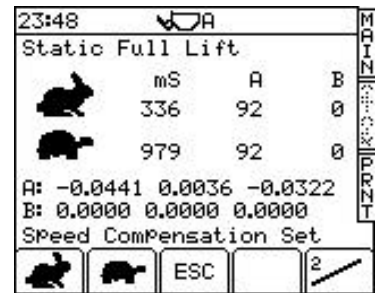

Figure 6b
-  Lift a **FULL** bucket at slow speed to the static weigh point (kickout), allow the system to weigh and then press ENTER. The instrument then displays the message "**Speed Compensation Set**" (fig. 6b).